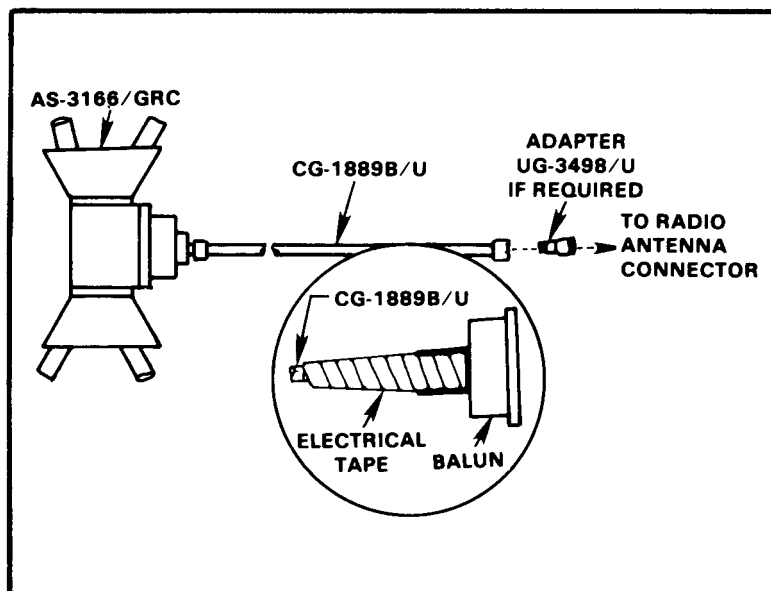

Figure 3-12. Connections of CG-1889B/U to AS-3166/GRC and radio.
b.	Connect the RF Cable CG-1889B/U to the feed cone assembly connector (Figure 3-12).
e.	Tape the RF cable connection (Figure 3-12) and tape the cable to the insulating extension just below the feed cone assembly. Tape the cable to the mast every 5 feet all the way to the bottom of the mast.
**NOTE:** For AN/VRC-12 family FM radios with BNC type antenna connectors, use the UG-349B/U adapter on the end of the CG-1886B/U RF cable (Figure 3-12).